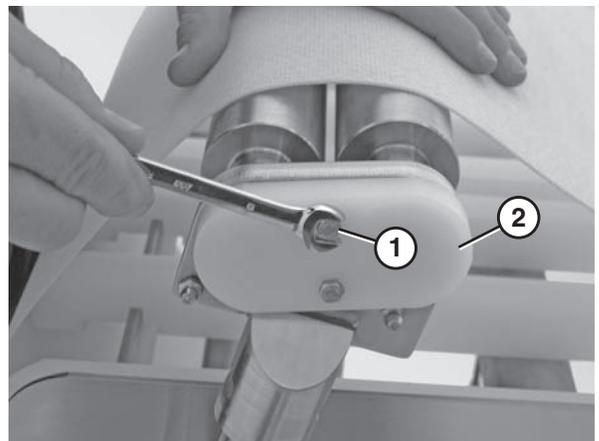

Figure 87
2. Remove the transfer bearing screws (**Figure 87, item 1**) and the cover (**Figure 87, item 2**) using an 8 mm wrench.